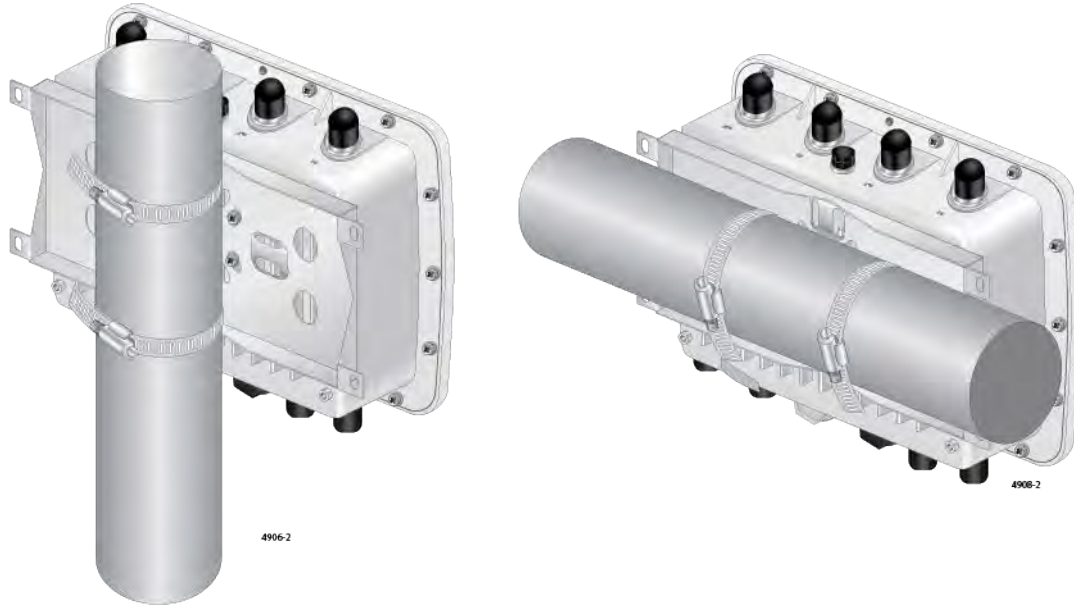

Figure 31. Pole Orientations for the Access Point
You can install the access point on a pole that stands vertically or runs horizontally. See Figure 31.
Figure 31 show the pole orientations using the pole straps and mounting base as examples. You can also install the access point on a vertical or horizontal pole using the U-bolts and pole-mount bracket.
- ☐ The access point can be installed on a pole that stands vertically or runs horizontally using either the U-bolts and pole-mount bracket or the pole straps and mounting base. See Figure 31 on page 60.